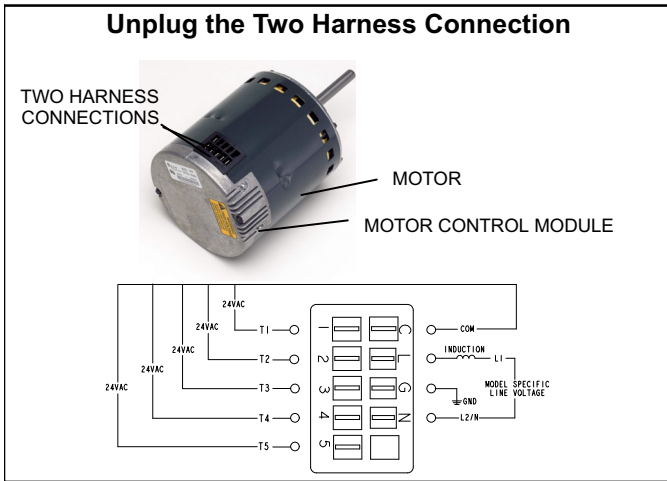

FIGURE 14
3. Unplug the **two** harnesses from the motor control module. See figure 14.